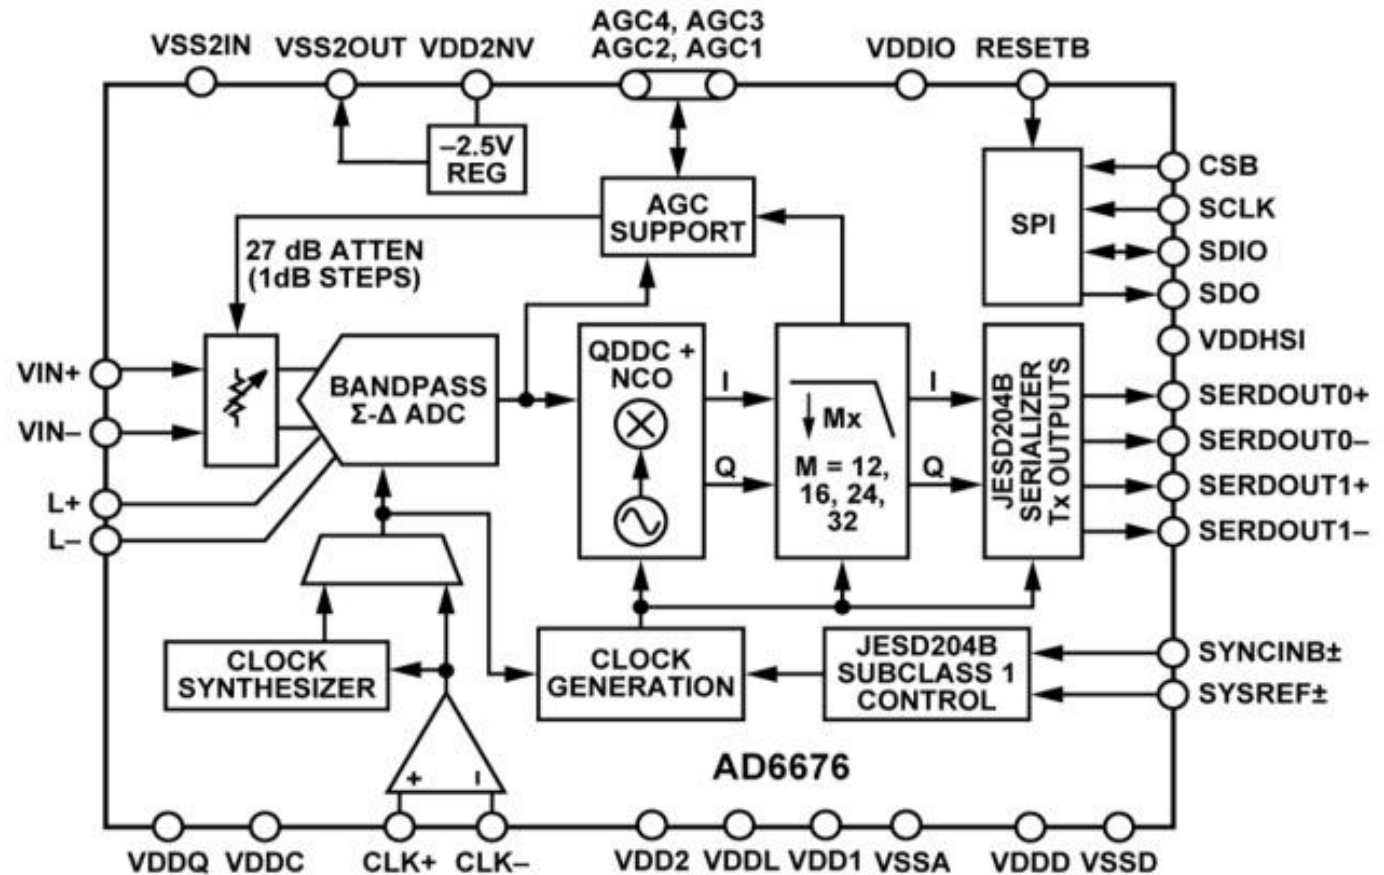

Figure 1. Block diagram of the AD6676 IF Rx Subsystem
The AD6676 is the industry's first wideband IF Rx subsystem (Figure 1) based on a band-pass sigma-delta ADC supporting IF signal bandwidths up to 160 MHz while operating with an internal clock rate of up to 3.2 GHz. It is the high oversampling capability of the Σ - Δ ADC that greatly simplifies the IF analogue filtering requirements required in lower sampling ADCs to suppress adjacent channels (and interference/blockers) that would otherwise "alias" back onto the IF signal thus reducing the receiver's sensitivity performance. Also, it is the ADC's high dynamic range with an NSD (noise spectral density) floor of -160 dBFS/Hz (for narrowband QAM channels) that reduces the diplexer Tx-to-Rx isolation requirement or analogue AGC range that compensates for fading.
Figure 1. Multipath fading – A radio signal's strength at the receiver (B) is affected not only by the direct path (P_d), but also by reflections (P_{m1} & P_{m2}) which may arrive out of phase and cause significant fading.